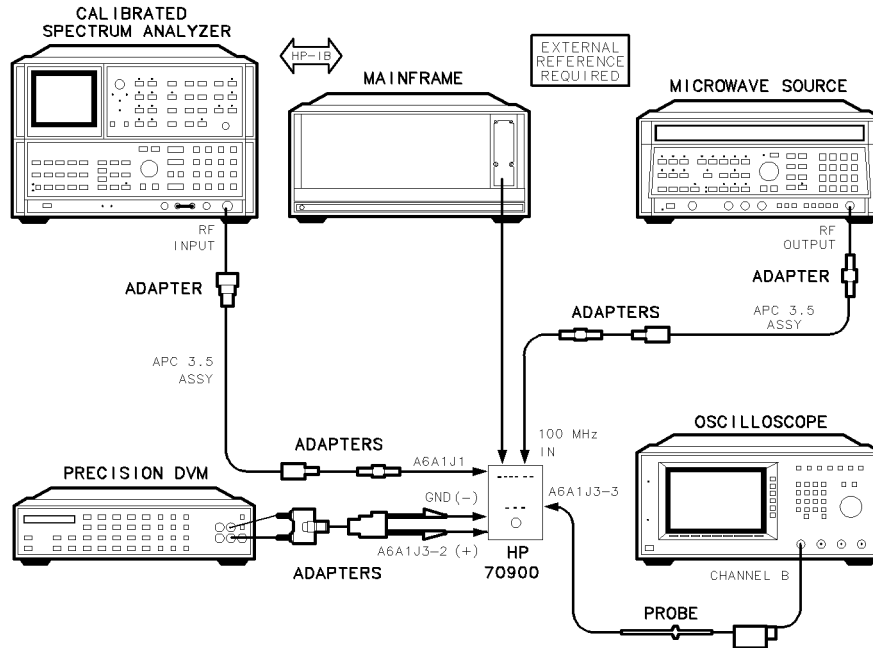

Figure 6-3.
10. Connect the test equipment as shown in Figure 6-3. Figure 6-4 illustrates the test points and adjustment locations on the A6A1 100 MHz reference. Connect the spectrum analyzer to A6A1 100 MHz reference (J1). Connect the positive DVM lead to A6A1 100 MHz reference (J3-2) and the negative lead to the chassis. Connect the oscilloscope probe to A6A1 100 MHz reference (J3-3) and the probe's ground lead to the chassis. Connect the synthesized source to the local oscillator source's rear panel 100 MHz jack. (This jack is electrically connected to A6A1 100 MHz reference (J2) through W9.)